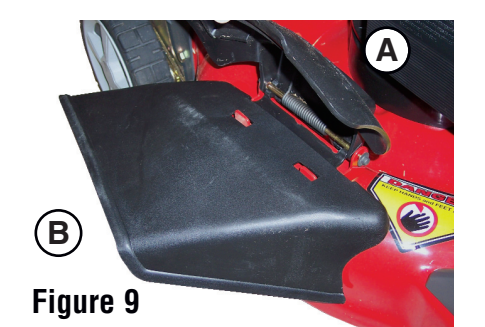

Figure 9
- Lift the mulching cover (A, Figure 9).